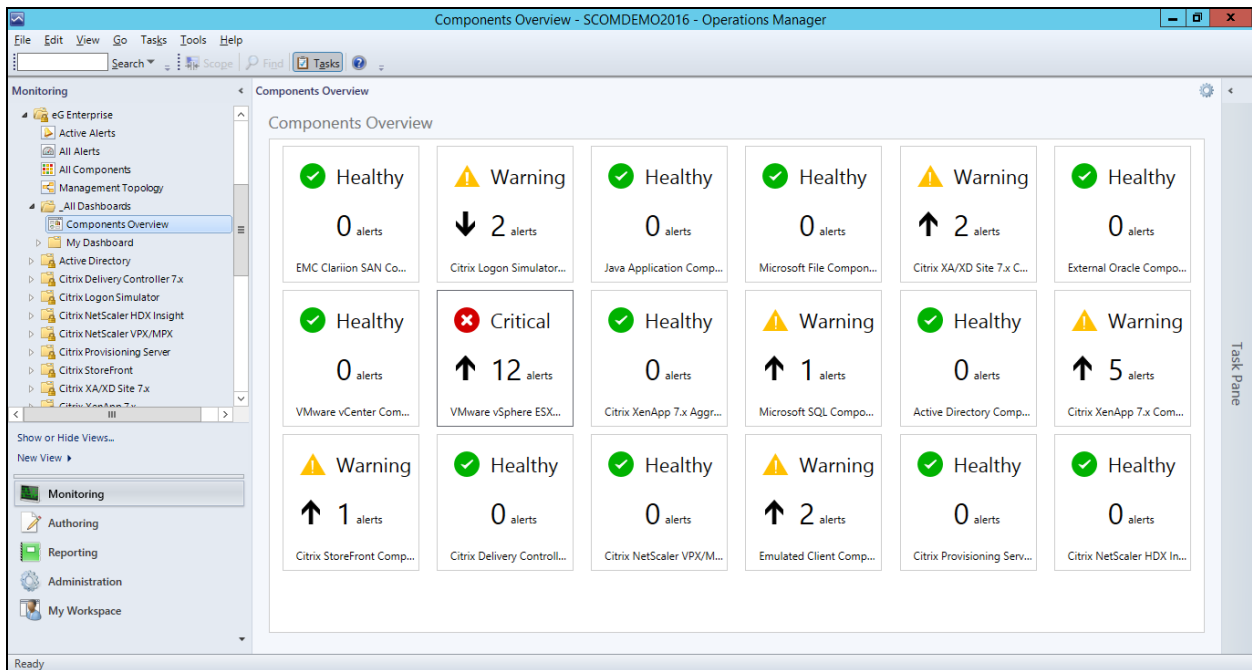

Figure 4.14: The Components Overview Dashboard
1. In the tree-structure in the left panel of the SCOM console, expand the *_All Dashboards* sub-node under the **eG Enterprise** node. Then, click the **Component Overview** node within. This will present to you a **Components Overview** dashboard, as depicted by Figure 4.14.